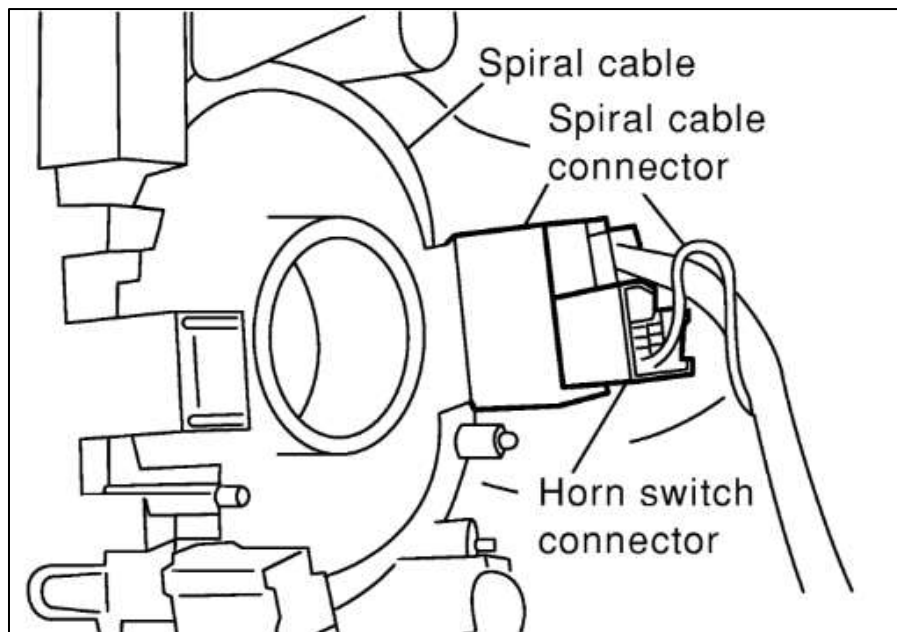

Figure 3
- Disconnect the Horn Connector and the Gray Connector for the Button Controls on the Steering Wheel. *Figure 3.*